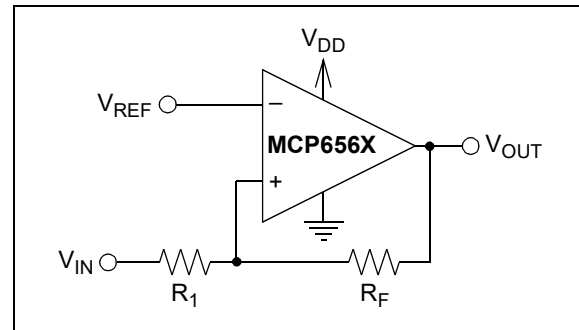
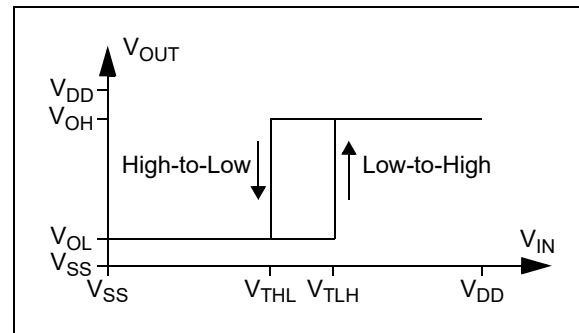

FIGURE 4-4: Noninverting Circuit with Hysteresis for Single Supply.
FIGURE 4-5: Hysteresis Diagram for the Noninverting Circuit.
Figure 4-4 shows a noninverting circuit for single-supply applications using just two resistors. The resulting hysteresis diagram is shown in Figure 4-5.
The trip points for Figure 4-4 and Figure 4-5 are:
2. Noninverting Configuration (Figure 4-4):